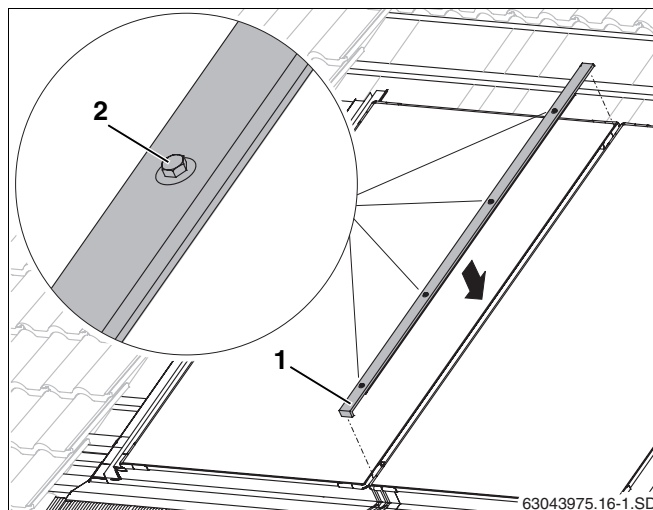

Fig. 51 Middle cover strip
- ▶ Press cover strip (Fig. 51, **Item 1**) with the folded edge facing downwards into the gap between the two collectors and make sure it is centrally positioned.
- ▶ Using size 8 spanner, tighten screws (Fig. 51, **Item 2**) by hand, beginning at the bottom.